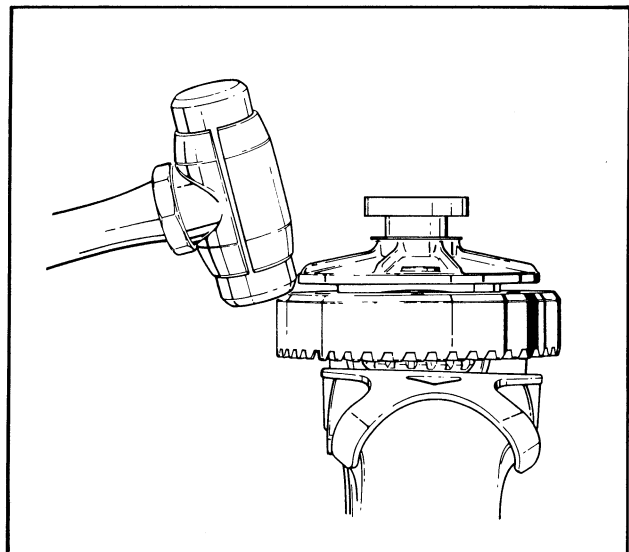

Figure 25 – Removing Ring Gear
- k. Remove bolts (12) from ring gear (13).
- l. Use a soft hammer to tap ring gear from ring gear carrier, Figure 25. Be careful not to damage ring gear teeth.